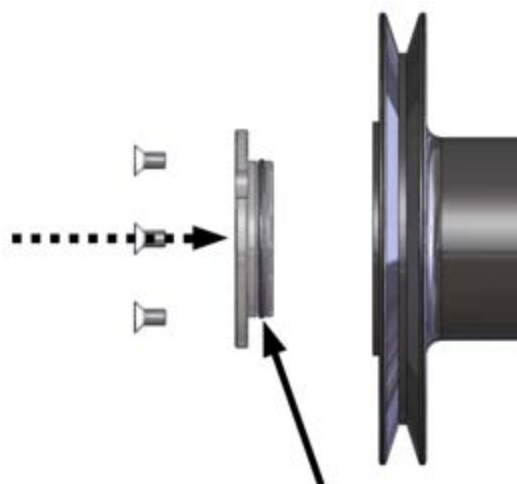

Figure 23. Cover ring of the coupling flange front surface
- 8.3. Install the cover ring on the front surface of the coupling flange. Please note the o-ring in the ring (figure 23).